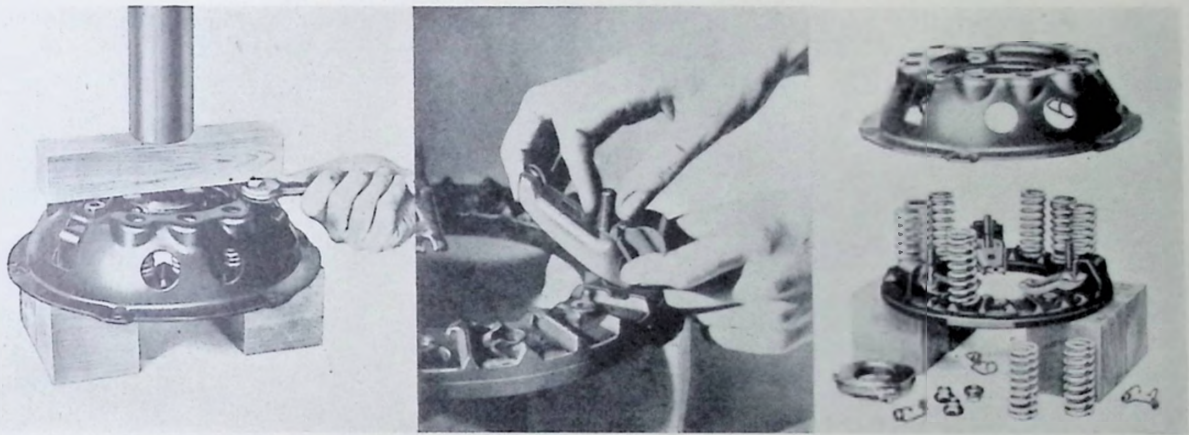

Fig. 2. Clutch Assembly.
- (1) Detach the release lever plate (4) from the retainer springs (7) and place the cover assembly on the bed of a press with the pressure plate (2) resting on blocks, so arranged that the cover is free to move downwards when pressure is applied.
- (2) Place a block of wood across the cover, see Fig. 2, resting on the spring bosses, and compress the cover by means of the ram. Remove the nuts (12) which if staked should be released by exerting sufficient turning pressure to shear the peening. Slowly release the pressure to prevent the thrust springs from flying out.
- (3) Remove each release lever (8) by holding the lever and the eyebolt (10) between fingers and thumb so that the inner end of the lever and the threaded end of the eyebolt are as close together as possible.
the plain end of the eyebolt to be inserted in the hole in the pressure plate. Move the strut upwards into the slots in the pressure plate lug, over the ridge on the short end of the lever and drop it into the groove formed in the latter. Fit the remaining release levers in a similar manner. See Fig. 2, Page BV5.
- (2) Place the pressure plate (2) on blocks on the bed of the press and arrange the thrust springs (3) in a vertical position on the plate, seating them on bosses provided. See Fig. 2, Page BV5.
- (3) Lay the cover of the assembled parts, ensuring that the anti-rattle springs (11) are in position, that the tops of the thrust springs are directly under the seats in the cover, and that the machined portions of the pressure plate lugs are under the slots through which they have to pass.
- (4) Place the block of wood across the cover resting on the spring bosses, and compress the cover by means of the ram, guiding the eyebolts and pressure plate lugs through their respective holes. Screw the adjusting nuts (12) on to the eyebolts (10) and secure by staking. Operate the clutch a few times, by means of the ram to ensure that the working parts have settled in their correct positions.
- (5) Remove the clutch from the press and connect the release lever plate (4) to the retainer springs.
- (6) If new parts which would affect the adjustment have been fitted the release levers should be set by means of the special gauge plate.